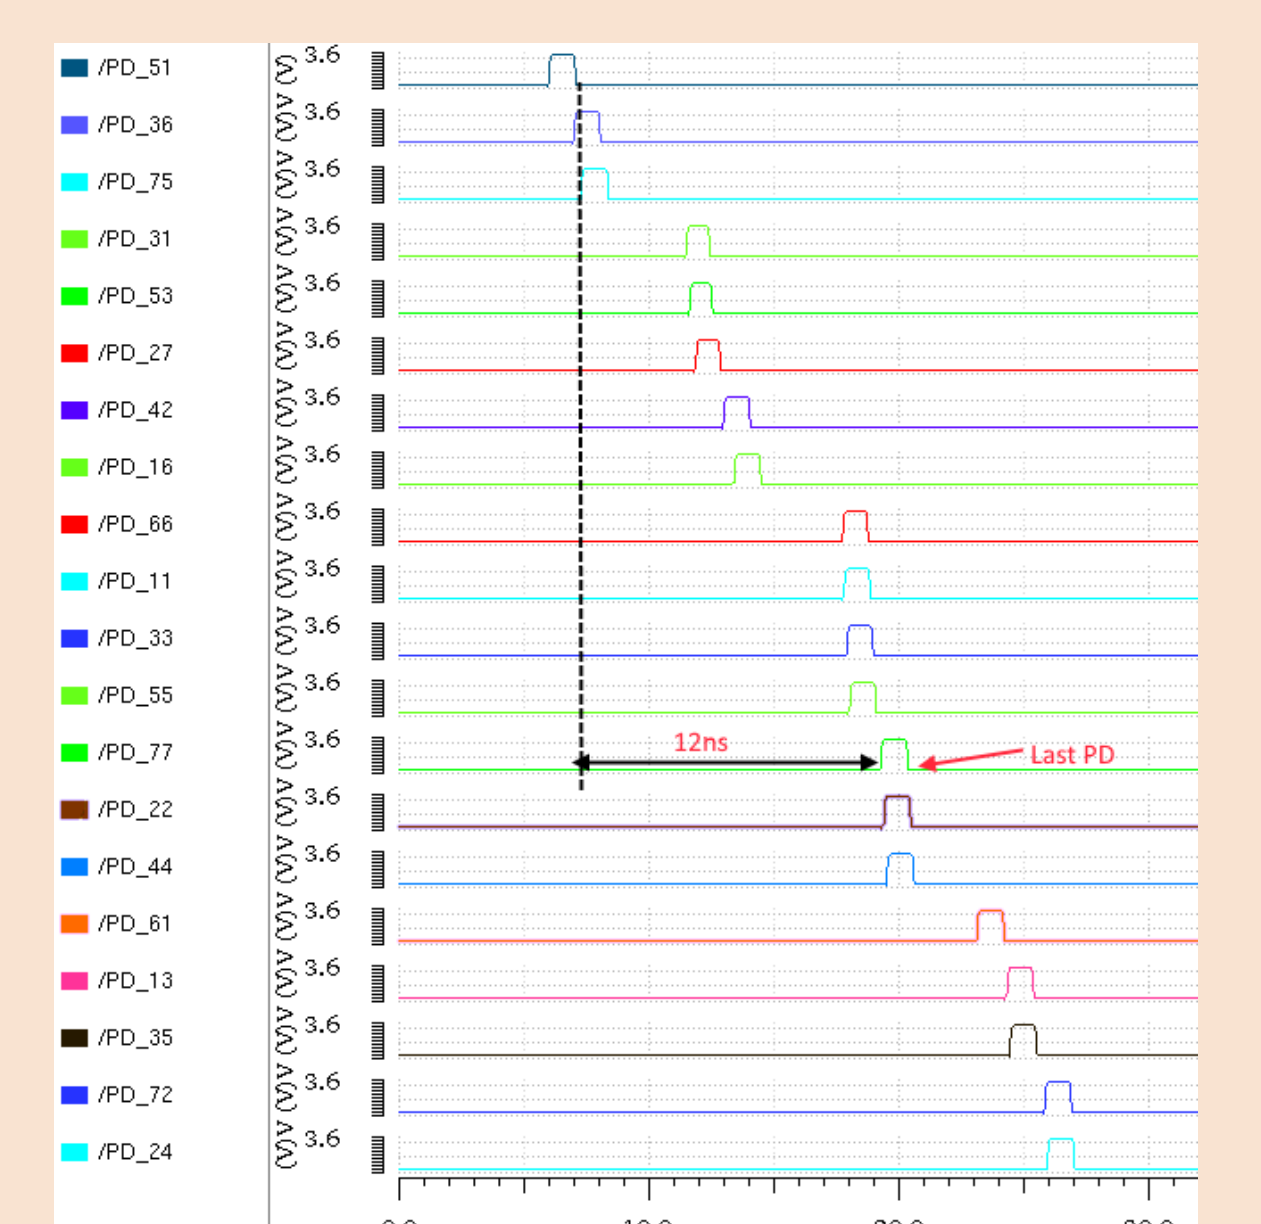

Figure 5: Output of the phase detector matrix
- In the figure 5, the first phase detection arrives at $PD_{51} = 7ns$ the dead time is significantly improved ($PD_{77} = 19ns$ compared to an architecture with one phase detection at the end of the delay line)